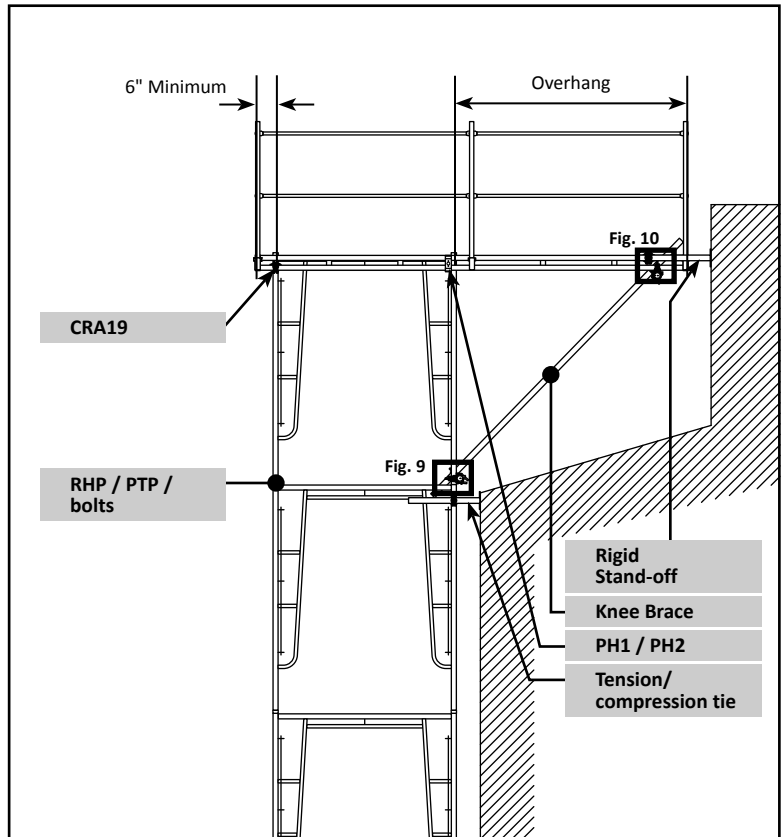

Figure 8 – Cantilevered Putlogs
1. Putlog must extend a minimum of 6" beyond the outer frame leg (Fig. 8).
2. Attach putlog to outer frame leg with CRA19 clamp and to inner leg with putlog hanger (PH1 or PH2). **Do not substitute** (Fig. 8).
3. Frames must be secured to coupling pins (CP) with rivet & hairpins (RHP), pigtail pins (PTP) or bolts (Fig. 8).
4. Install a stand-off (butt tube) against the structure at each putlog (Fig. 8).
5. Install a tension/compression (push/pull) tie to the structure at each frame one lift below the putlog. Tie shall be located near a horizontal frame member (Fig. 8).
6. Install a horizontal tube (ST__SG) to the cantilevered end of the putlog with CRA19 clamp (Figs. 8, 10).
7. Install a horizontal tube (ST__SG) just above the top of the frame below with CRA19 clamp (Figs. 8, 9).
8. Install knee brace tube to the horizontal tubes with CRA19 clamps (Figs. 8–10).